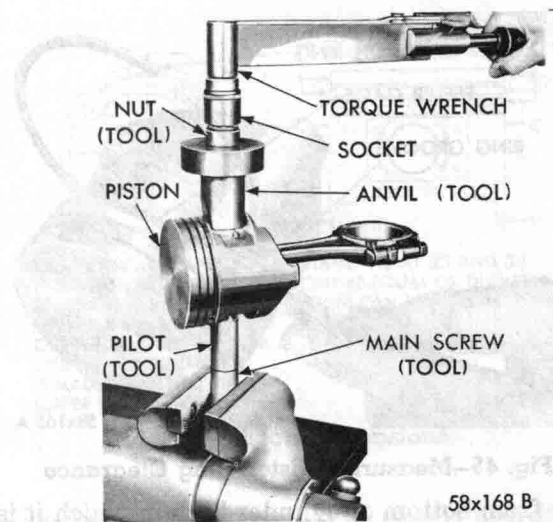

Fig. 50—Testing Fit with Pin in Connecting Rod
(11) Place the assembly in a vise, as shown in Figure 50.
(12) Attach the torque wrench to nut and check torque up to 15 foot-pounds torque. If the connecting rod moves downward on piston pin, reject this connecting rod and piston pin combination. Obtain